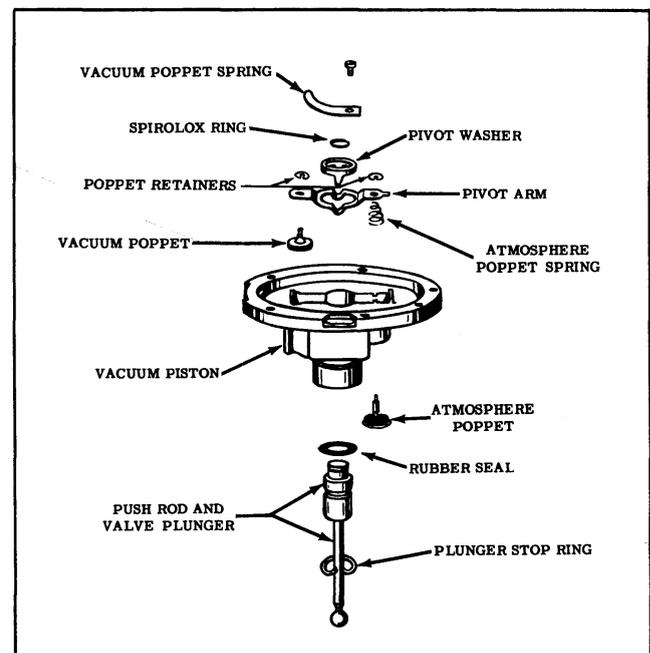

Fig. 7-50 Plunger and Poppet Assembly
1. Install rubber seal in recess of push rod plunger with lip of seal pointing toward push rod. (See Fig. 7-50) Coat plunger with Dow Corning No. 4 Silicone Grease and install push rod and plunger assembly into hub side of vacuum piston. Install plunger stop ring in hub of vacuum piston.